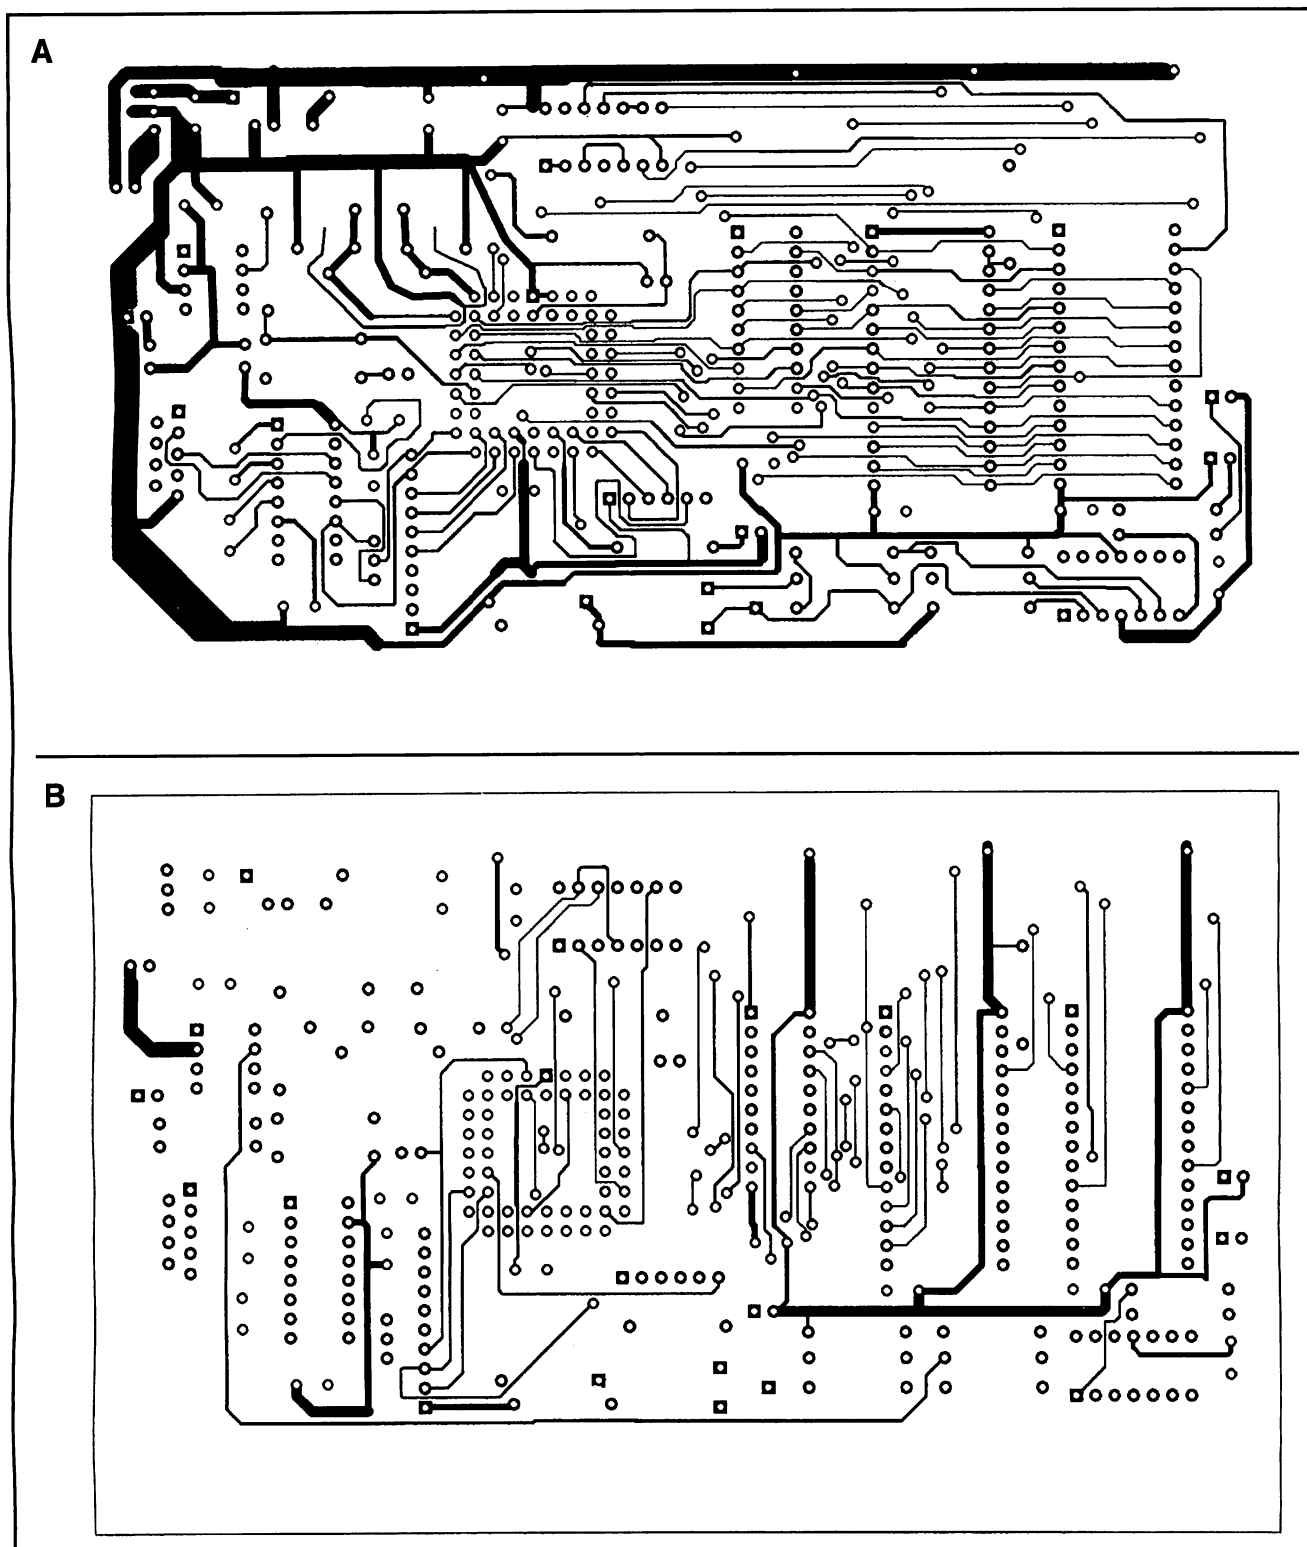

Fig. 2. Actual-size etching-and-drilling guide for MAGPRO11's printed-circuit board. (A) is solder-side view, (B) component-side view.
Except for the power supply, MAGPRO-11 is a self-contained design. All components mount on a 3" x 6" double-sided printed-circuit board. If you wish to fabricate the pc board, use the actual-size artwork for the solder (A) and component (B) sides shown in Fig. 2. Alternatively, it's possible to wire the circuitry on a single-sided board with the copper traces in Fig. 2(A) and using Fig. 2(B) as a guide for installing wire jumpers in place of the traces shown. If you prefer not to make your own pc board,